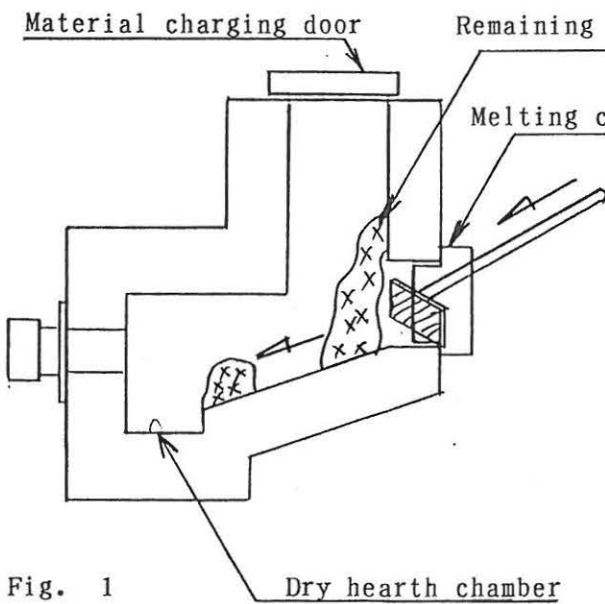

Fig. 1
③ Operating procedure at the end of melting.
- (1) Suspend material charging before the completion of casting.
- (2) Push out unmelted material to the front of the melting burner and melt that about 15 minutes.(Fig.1)